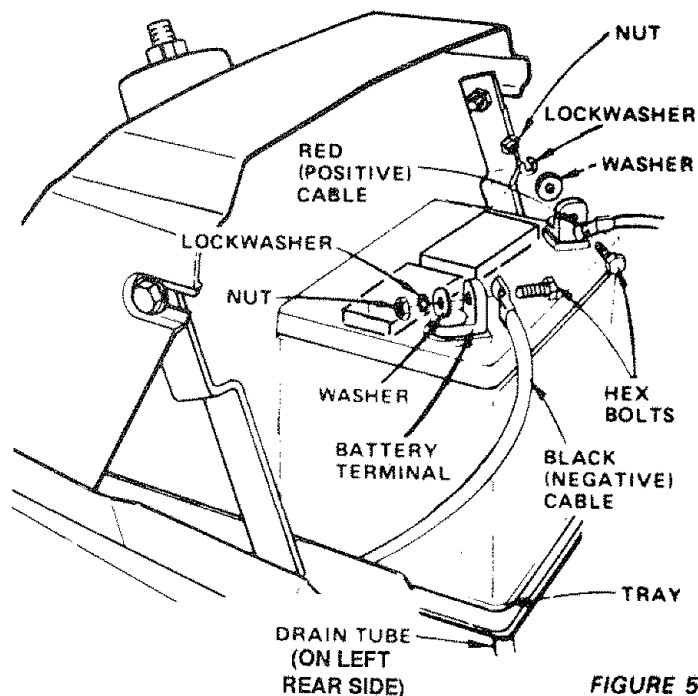

FIGURE 5
- c. Make sure drain tube (Fig. 5) is fastened to drain hole in battery tray and battery tray is positioned in hole of battery support.
- d. Place battery in plastic tray (battery terminals to front of tractor) (Fig. 5).
- e. Connect RED battery cable to positive (+) battery terminal with hex bolt, flat washer, lockwasher and hex nut (shown full size below) found in bag of parts (Fig. 5). Tighten securely.
- f. Connect BLACK ground cable to negative (-) battery terminal with remaining hex bolt, flat washer, lockwasher and hex nut (shown full size below) found in bag of parts (Fig. 5). Tighten securely.